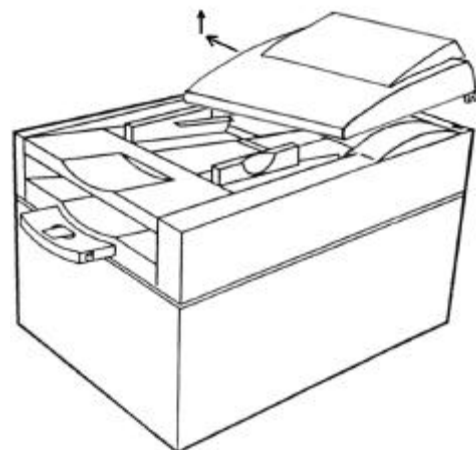

fig. 4.4
- 5) move the CP toward left and then upward (fig 4.4)